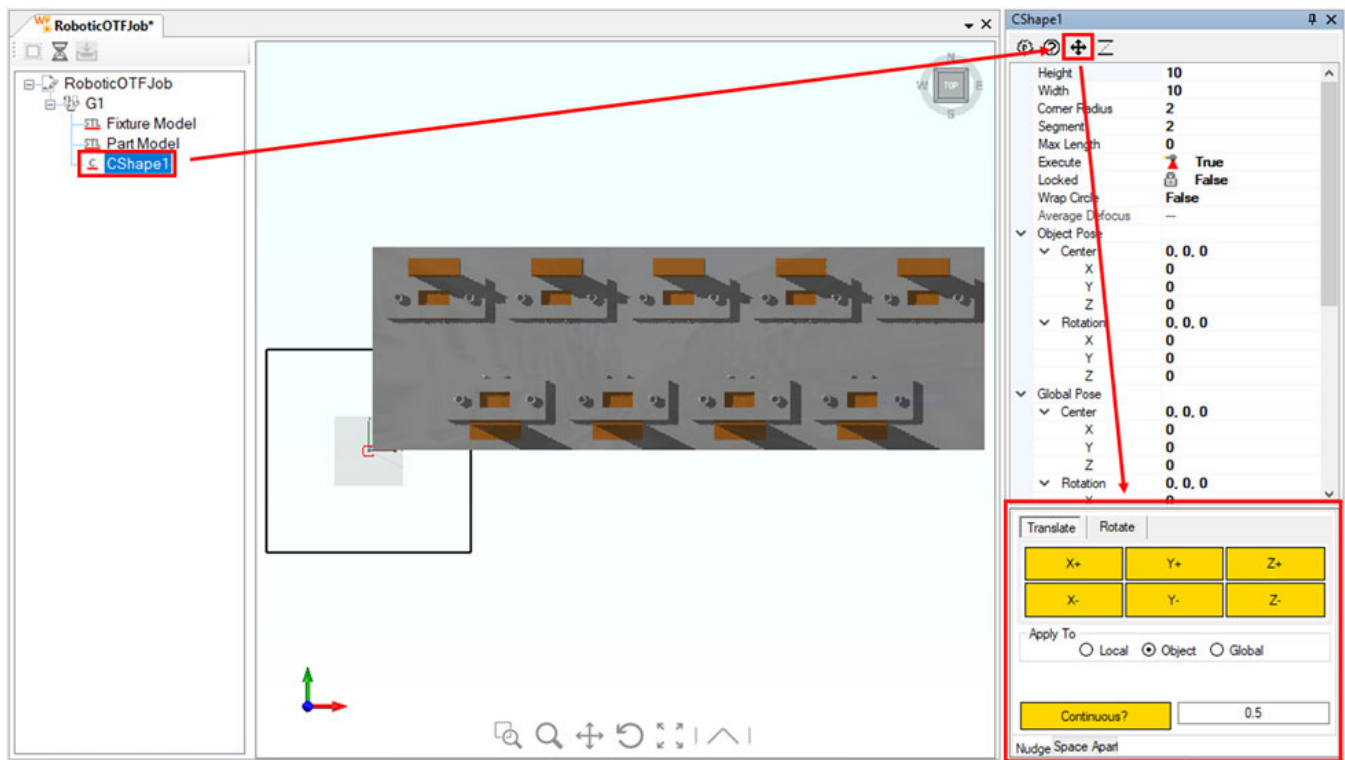

Figure 235: Opening the Nudge Window
2. Select the Process Object in the Job Tree and click the Nudge Tool button to open the Nudge Tool window. See Figure 235 (below).